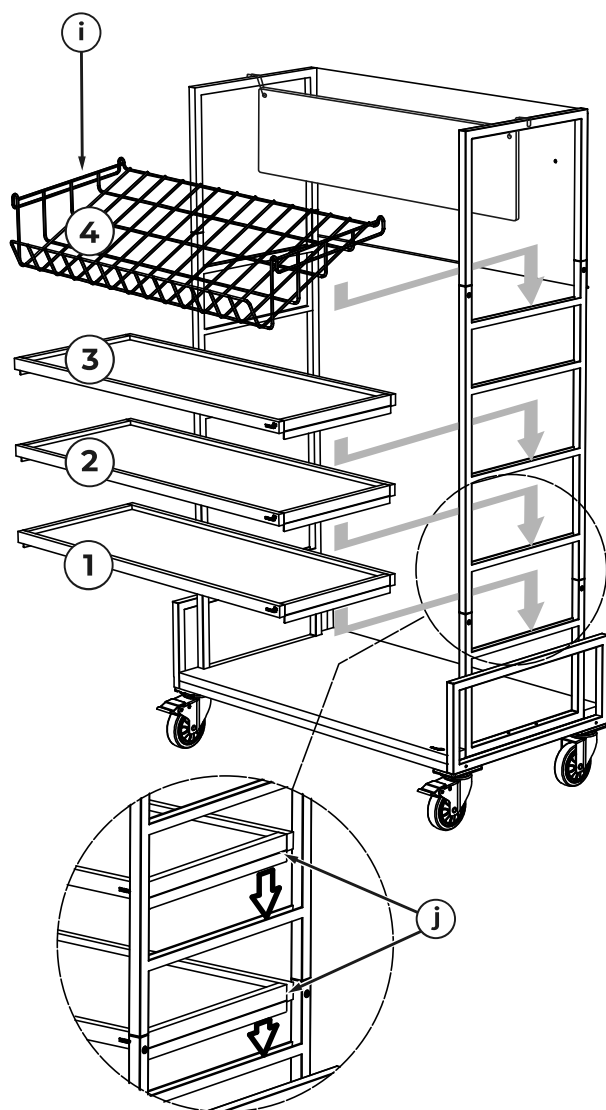

Figure 6
7. Place the Bamboo Shelves (j) first. Start at the bottom and work upwards, placing the accessories in the order shown in Figure 6 below.